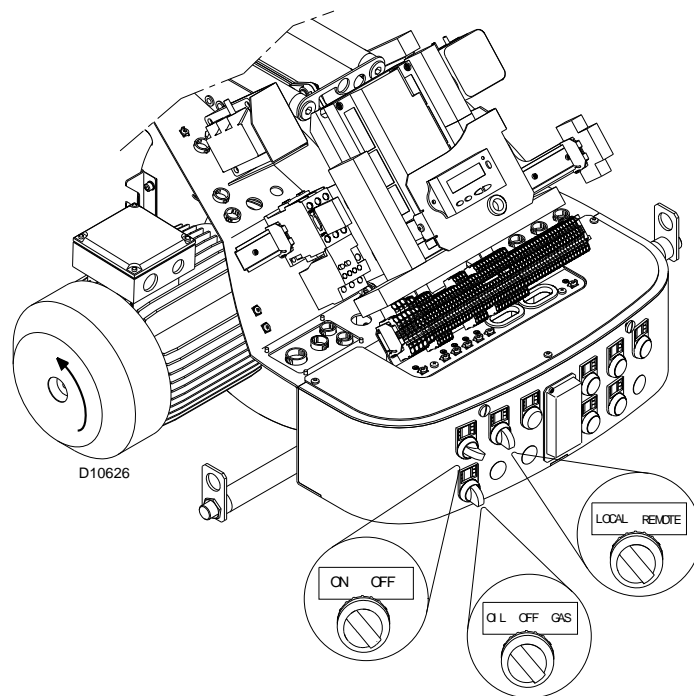

Fig. 43
Turn the switch to position “ON” (Fig. 43) and turn the switch of to position “LOCAL” and turn the switch to position “OIL” for oil operation and “GAS” for gas operation.
When the burner starts, check the direction of the motor rotation, as indicated in Fig. 43. As soon as the burner starts up, look at the cooling fan of the fan motor and check it is rotating anticlockwise.
- place the switch of Fig. 43 in position “OFF” and wait for the control box to carry out the switch-off phase;